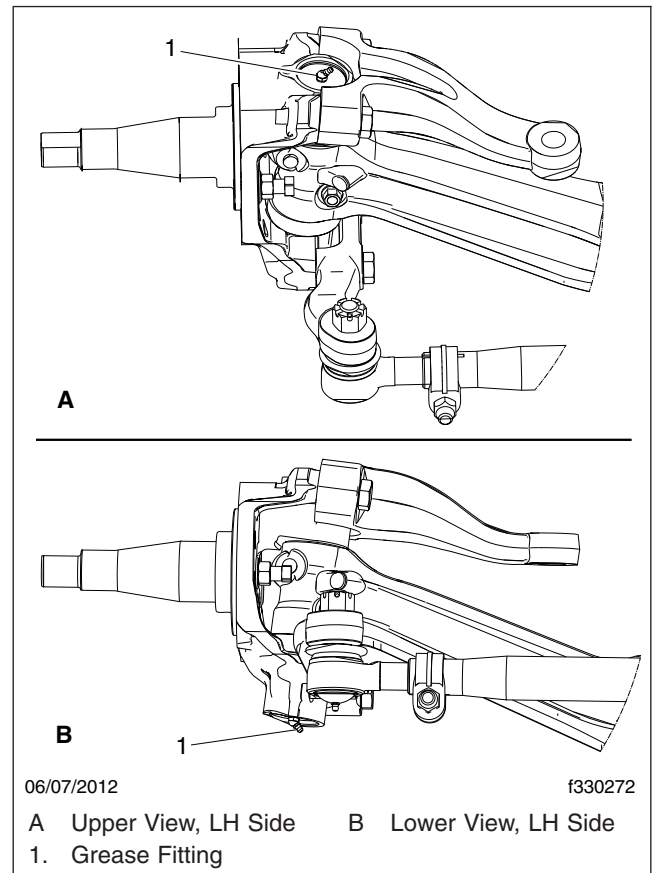
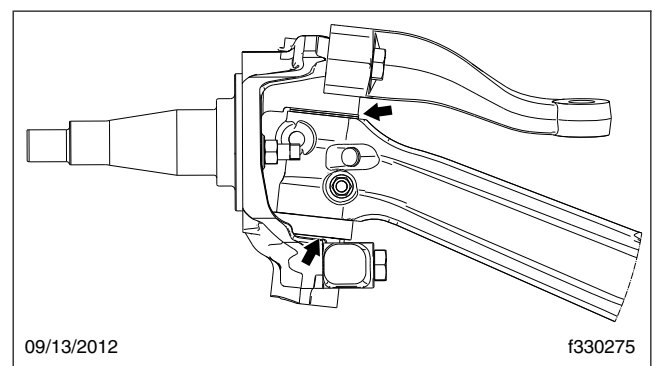

Fig. 1, Grease Fittings, Detroit Axles
Fig. 2, Knuckle Pin Grease Exit Points, Detroit Axles
3. Apply multipurpose chassis grease, NLGI Grade 1 (6% 12-hydroxy lithium stearate grease) or NLGI Grade 2 (8% 12-hydroxy lithium stearate grease), until new grease is seen at the junctions of the axle beam and knuckles. For locations of grease fittings, see **Fig. 1**; for grease exit points, see **Fig. 2**.